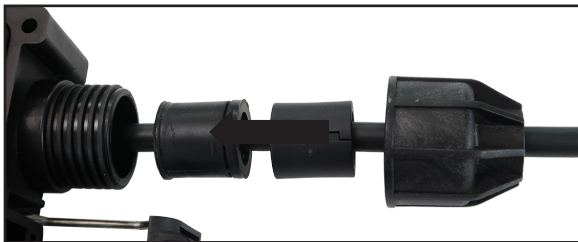

Figure 1-28: Push all the components
- 7 Store and manage the cable (as shown in steps 17 and 18 in section 1.2 **Install the Uncut Cable**), then push and screw all the components for the branching cable inward (Figure 1-28).